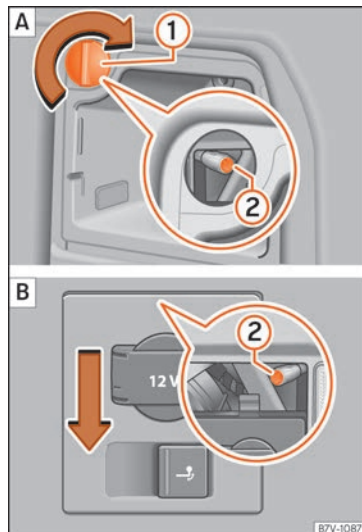

Fig. 70 Side of the luggage compartment: **A** Removing the left tail light unit. **B** Removing the right tail light unit.
- *Left tail light:* open the storage compartment on the left side of the luggage compartment »» page 152 and then rotate cap »» Fig. 70 ① 90 ° in the direction of the arrow and remove it.
- *Right tail light:* Move the 12 V power socket support by pressing gently downwards »» Fig. 70 [B] (arrow).
- Unscrew the attachment screw »» Fig. 70 ② using the screwdriver from the vehicle tool kit »» page 41. The bolt is secured in its position.
- *Left tail light:* replace the cap »» Fig. 70 ① and turn it through 90° in the opposite direction to the arrow. Close the storage compartment.